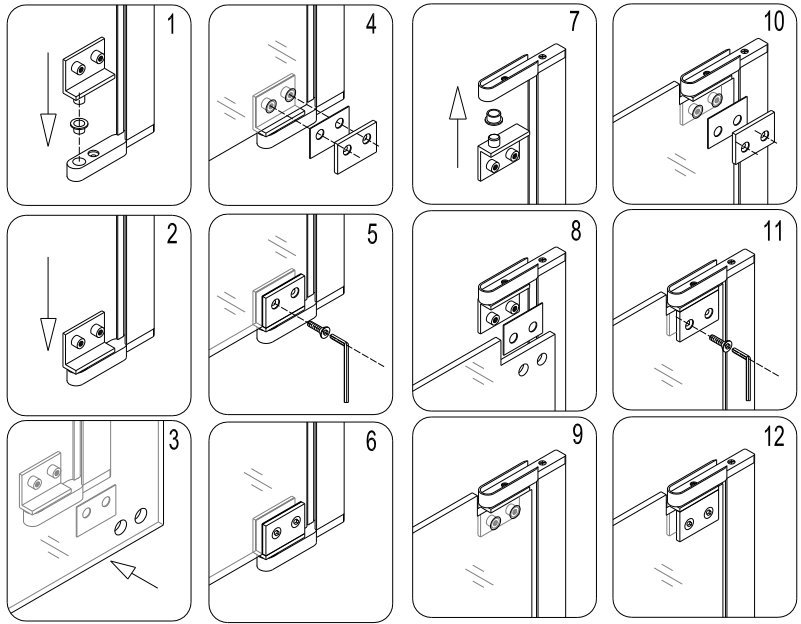

Fig. 4
5. Attach the bottom **Pivot assembly (16)** onto the **Pivot bracket (17)**. Make sure that the **Washer (18)** is in between the pivot assembly and the pivot bracket. The washer may already be placed on the pivot assembly pin or inside the pivot bracket. Repeat the same for the top pivot assembly. The pivot assembly and the pivot bracket edges should be aligned. The bolt side should face inward. Remove the back fastener from the pivot assembly. Set the **Glass door (05)** so the holes are aligned. Make sure the rubber gaskets are in between the glass and the metal parts. Secure the glass with the back fastener using the provided bolts. See fig. 4 for details.